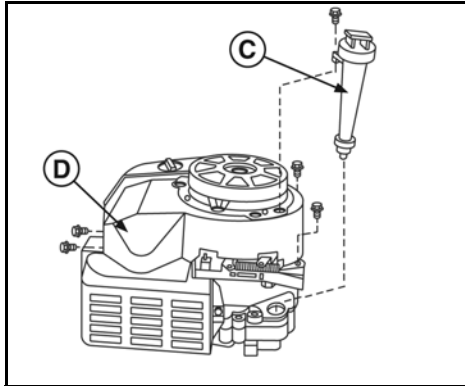

Figure 11
1. Install the screws to the blower housing (D, Figure 11), torquing screws to values listed in Section 12 - Engine Specifications.
2. Install the oil fill tube and dipstick (C).